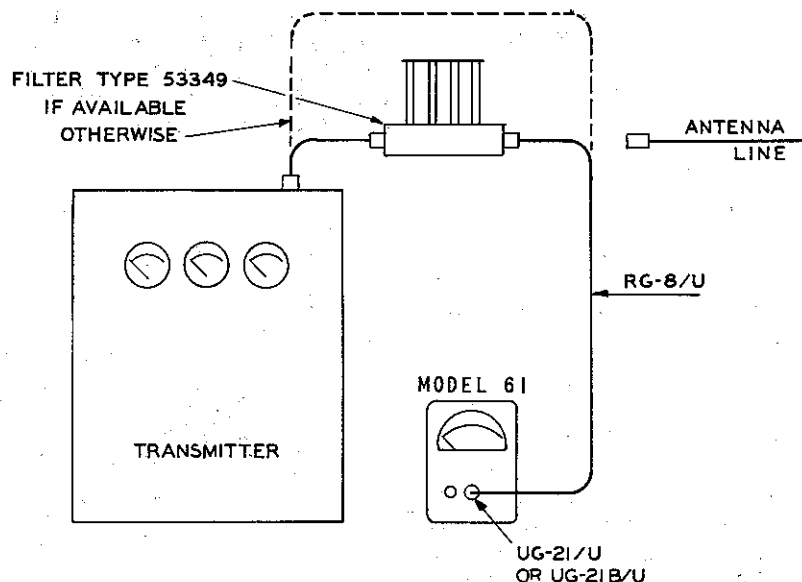

Fig. 4-1. Typical Connections to Transmitter
c. With the TRANSMITTER OFF, disconnect the antenna line and connect the wattmeter as shown in Fig. 4-1.
(1) The wattmeter is a broad band instrument and its action with presence of harmonics or other spurious frequencies should be considered.
(2) Wattmeter sensitivity decreases with frequency above 500 mc and below 1400 mc. Laboratory and field experience indicate that low order harmonics in this range do not appear to be serious sources of error. However, to avoid measurement error and interference troubles it is highly desirable to eliminate all frequencies except the carrier desired. Such filters as have been provided for interference control should be installed when employing the wattmeter as shown in Fig. 4-1, 4-2, 4-3.
(3) Above 1400 mc, two sensitivity peaks are present in the wattmeter sensitivity curve. These are approximately 1700 and 2600 mc where resonances occur in